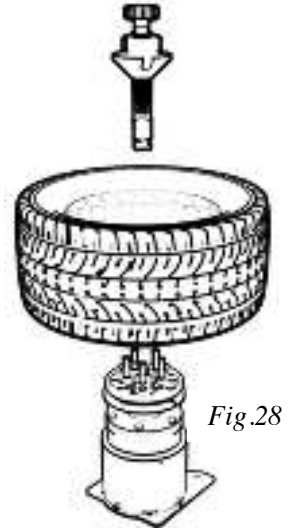

Fig.28
- Clamp the wheel using the clamping device (ref. fig. 28).